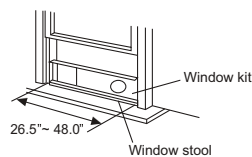

Fig.7
2. Adjust the length of the slider kit according to the width of the window. Place slider kit to window stool, on top of foam seal. Fig.7.